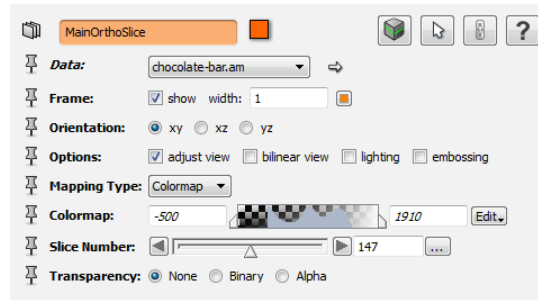

Figure 6.75: The *MainOrthoSlice* module properties.
- You may select the module *MainOrthoSlice* and adjust the colormap range of the edges area or transparency for better seeing the edge areas (see Figure 6.75).